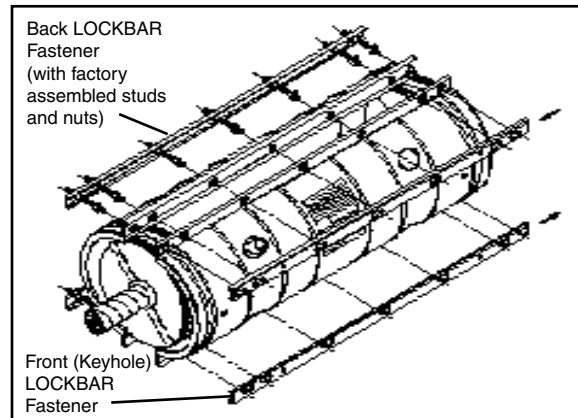

FIGURE 30 - LOCKBAR FASTENING
NOTE: Positioning arrows have been stamped in to each LOCKBAR Fastener (front and back). These arrows should always point away from the Splice Case and will help assure proper alignment and eliminate the chance of a LOCKBAR Fastener being misapplied. (Figure 30)
13.07 Install LOCKBAR Fastening system as shown in Figure 30. LOCKBAR Fastening consists of a (back) studded LOCKBAR Assembly with factory assembled threaded bolts and nuts, and a (front) keyhole LOCKBAR Assembly. The back LOCKBAR Assembly mates with the front LOCKBAR Assembly through the flange of the Splice Case shells, and then locks into position.